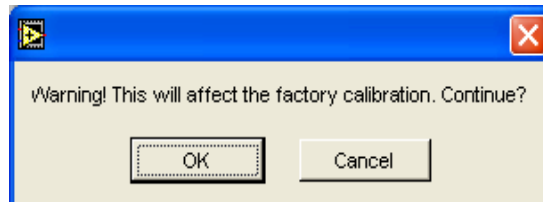

Figure 8 - Adjustment Confirmation Pop-up
- iv. Click on the yellow 'Adjust' button, and then confirm the action when the following pop-up appears (Figure 8).